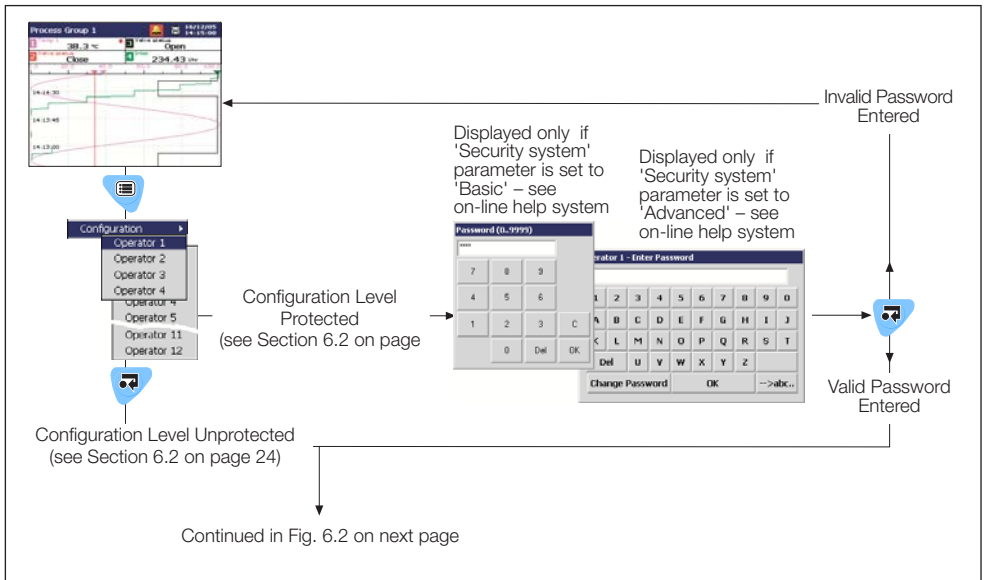

Fig. 6.1 Accessing the Configuration Level
The Configuration level cannot be accessed until the correct password has been entered – see Figs. 6.1 and 6.2 on pages 25 and 26 respectively.
6.3 Configuration Level Access – Figs. 6.1 to 6.3
1. Access the Configuration Level – see Figs. 6.1 and 6.2 on pages 25 and 26 respectively.
2. Access the Configuration Level – see Figs. 6.1 and 6.2 on pages 25 and 26 respectively.